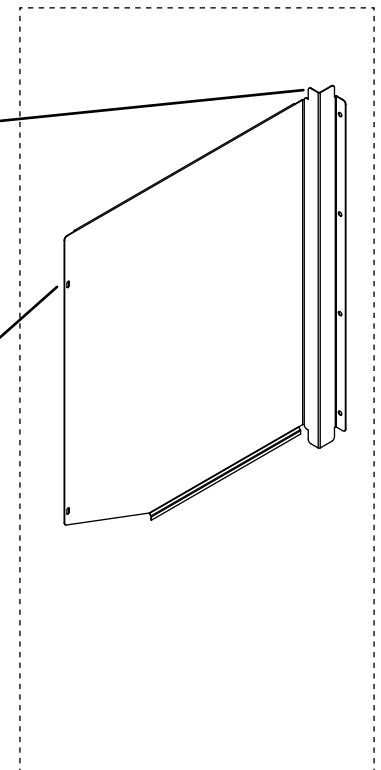

Fig. 5 - Corner splash shield
2. Install the optional splash shield, if included with machine, see Fig. 5. Detailed instructions can be found in Appendix A, page 36, for "Corner Splash Shield Installation Instructions".